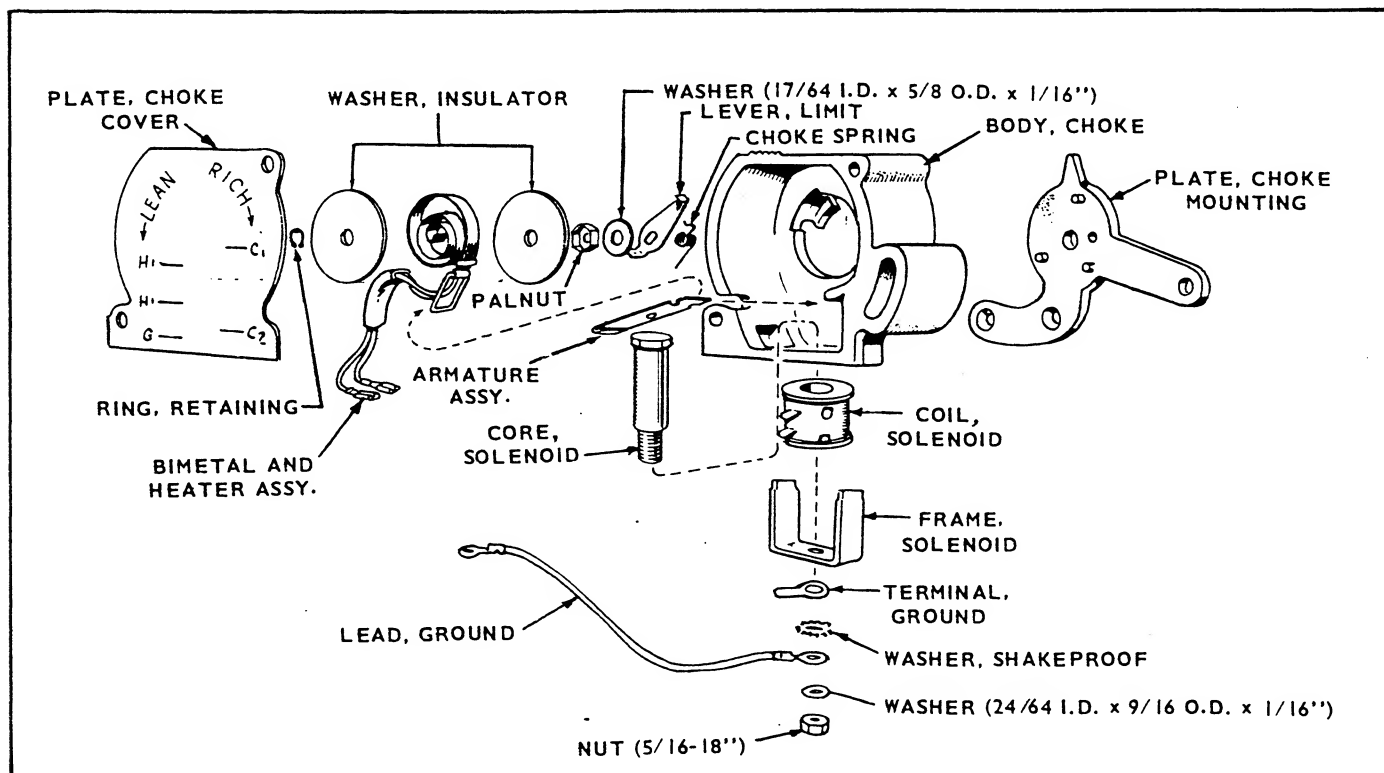

FIGURE 22. CHOKE ASSEMBLY
To disassemble the choke, refer to Figure 22.
**Assembly:** Refer to Figure 22. When assembling the thermomagnetic choke, connect the bimetal and heater assembly as follows: